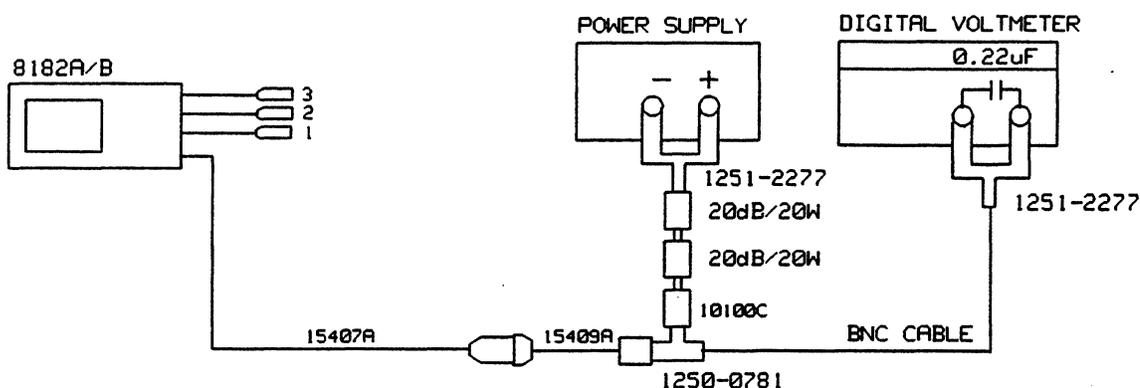

Figure 12-7. Test Setup for the Data Threshold Level Accuracy and Linearity Test
8. Connect the equipment as shown in Figure 12-7 and press RUN.